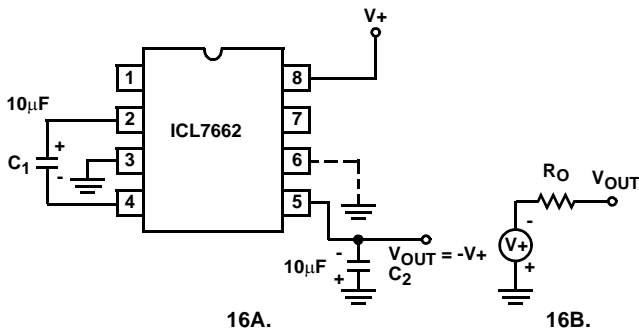

FIGURE 16. SIMPLE NEGATIVE CONVERTER AND ITS OUTPUT EQUIVALENT
The majority of applications will undoubtedly utilize the ICL7662 for generation of negative supply voltages. Figure 16 shows typical connections to provide a negative supply where a positive supply of +4.5V to 20.0V is available. Keep in mind that pin 6 (LV) is tied to the supply negative (GND) for supply voltages below 10V.
ESR also affects the ripple voltage seen at the output. The total ripple is determined by  $2V$ ,  $A$  and  $B$ , as shown in Figure 16. Segment A is the voltage drop across the ESR of  $C_2$  at the instant it goes from being charged by  $C_1$  (current flowing into  $C_2$ ) to being discharged through the load (current flowing out of  $C_2$ ). The magnitude of this current change is  $2 \times I_{OUT}$ , hence the total drop is  $2 \times I_{OUT} \times ESR_{C_2} V$ . Segment B is the voltage change across  $C_2$  during time  $t_2$ , the half of the cycle when  $C_2$  supplies current the load. The drop at B is  $I_{OUT} \times t_2 / C_2 V$ . The peak-to-peak ripple voltage is the sum of these voltage drops: